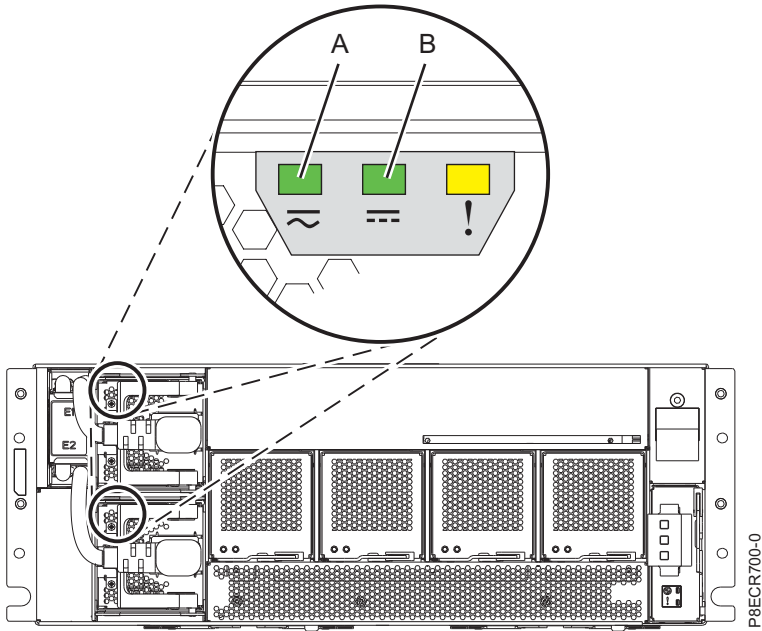

Figure 16. Verifying the power supply LEDs are on
2. Ensure the AC input LEDs (**A**) on the power supplies are on. See Figure 16 on page 16.